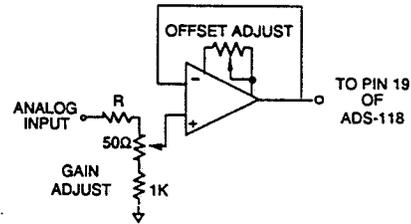
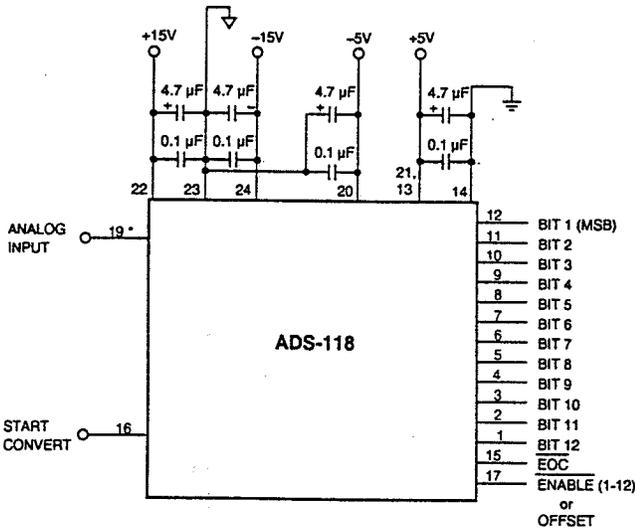

Figure 4a. Optional Bipolar Calibration Circuit, ADS-118
Figure 3. Typical ADS-118 Connection Diagram
- Applications which are unaffected by endpoint errors or remove them through software will use the typical connections shown in Figure 3. Remove system errors or adjust the small initial errors of the ADS-118/ADS-118A to zero using the optional external circuitry shown in Figures 4a and 4b. The external adjustment circuit has no effect on the throughput rate.
- Connect the converter per Figure 3 and Figure 4 for the appropriate full-scale range (FSR). Apply a pulse of 45 nano-seconds to the START CONVERT input (pin 16) at a rate of 250 kHz. This rate is chosen to reduce flicker if LED's are used on the outputs for calibration purposes.